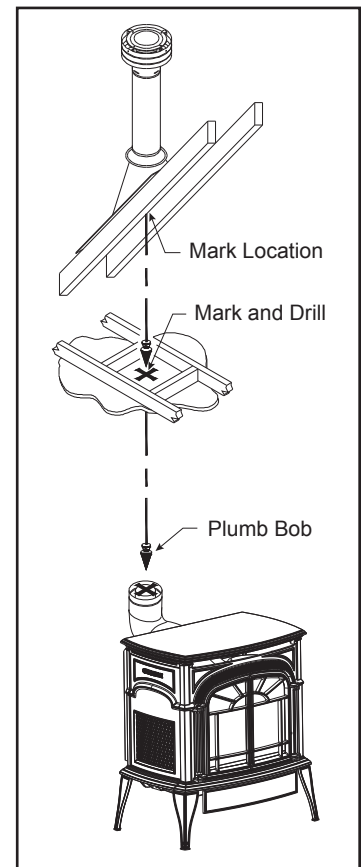

Figure 31
Step 2 - Set the gas appliance in the desired location. Drop a plumb bob down from the ceiling to the position of the appliance flue exit, and mark the location where the vent will penetrate the ceiling. Drill a small hole at this point. Next, drop a plumb bob from the roof to the hole previously drilled in the ceiling, and mark the spot where the vent will penetrate the roof, Figure 31. Determine if ceiling joists, roof rafters, framing or other materials will obstruct the venting system. You may wish to relocate the appliance or to offset, to avoid cutting load-bearing members.